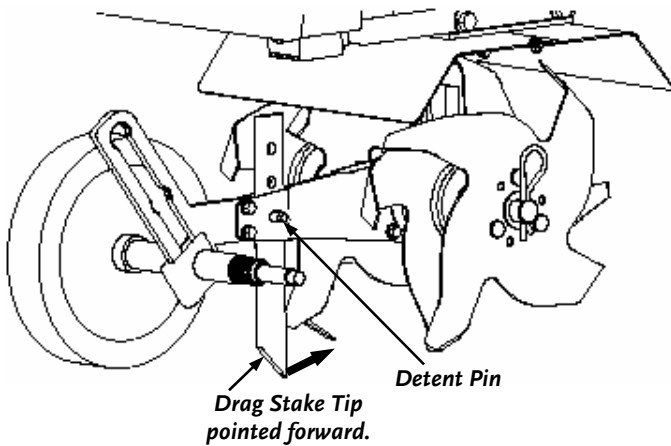

Figure 3
6. The Drag Stake shipped with its pointed end facing upwards. Remove the Detent Pin, turn the Drag Stake around and direct the point in the downward position facing towards the Tines, and then reinsert the Detent Pin (**Figure 3**).